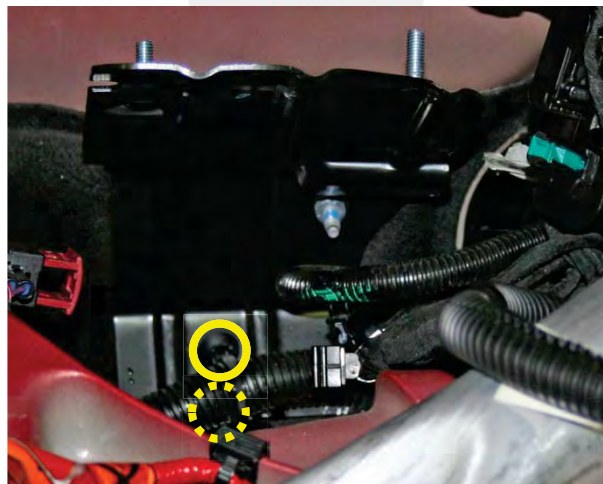

Figure 10
10. Remove the 2 fir tree clips that secure the 12V harnesses to the bracket (Figure 10).
NOTE: The 12V harnesses can be secured to the bracket in multiple ways. Figure 10 shows one example. Remove the fir tree clips as necessary.